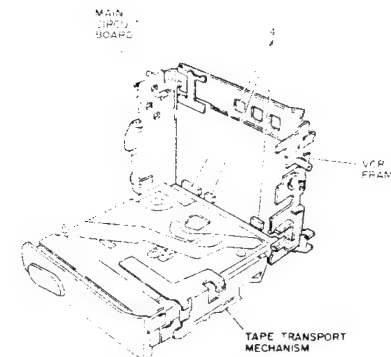
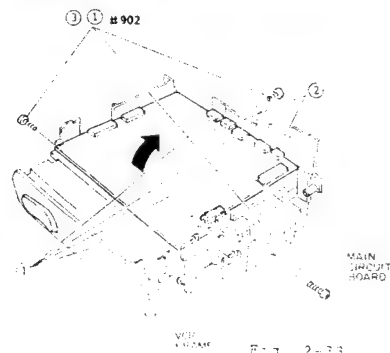

Fig. 2-34
Fig. 2-33
- 1) Disconnect four (4) flat cables (CN112, CN602, CN905, CN907) on the main circuit board. (See Fig. 2-33)
- 2) Disconnect two (2) connectors (CN113, CN904) on the main circuit board.
- 3) Remove three (3) screws holding the VTR frame and open the VTR frame with the main circuit board in the direction of the arrow.
- 4) Disconnect three (3) connectors (CN601, CN604, CN906) on the main circuit board and remove the VTR frame with the main circuit board from the tape transport mechanism. (See Fig. 2-34)
- 1) Remove three (3) screws holding the VTR frame and remove the VTR frame from the tape transport mechanism. (See Fig. 2-33)